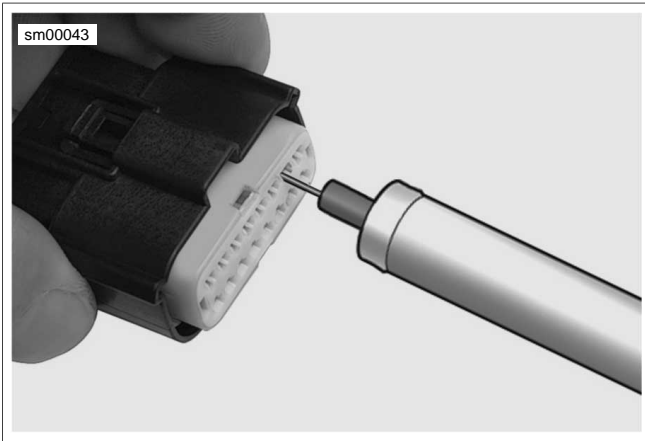

Figure A-38. Molex Connector: Terminal Remover (HD-48114)
2. See Figure A-38. Insert MOLEX ELECTRICAL CONNECTOR TERMINAL REMOVER (Part No. HD-48114) into the pin hole next to the terminal until the tool bottoms.